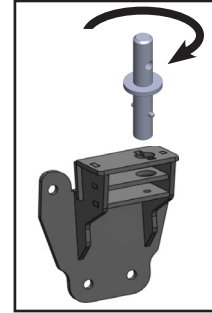

FIG.6
1. Install base rails onto the base of the hitch. Offset base rails {F} and {G} at the rear. Straight rails {E} at the front...obround hole facing downward on all rails (see FIG.6), using the supplied bolts (FIG. 7).